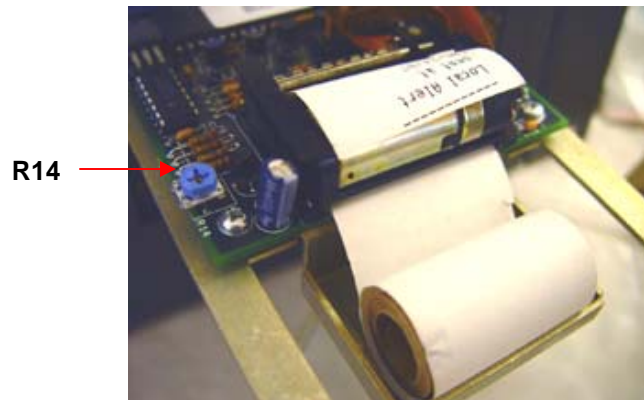

Fig. 7
13. Open the printer drawer and reinstall the printer paper. (see Fig. 7) Use the command ***menu.paper feed(password)***. Note: If the paper feed does not work the printer may be configured in the OFF state. To turn it on enter ***menu.configure.printer.yes***. You will be prompted to enter your password.